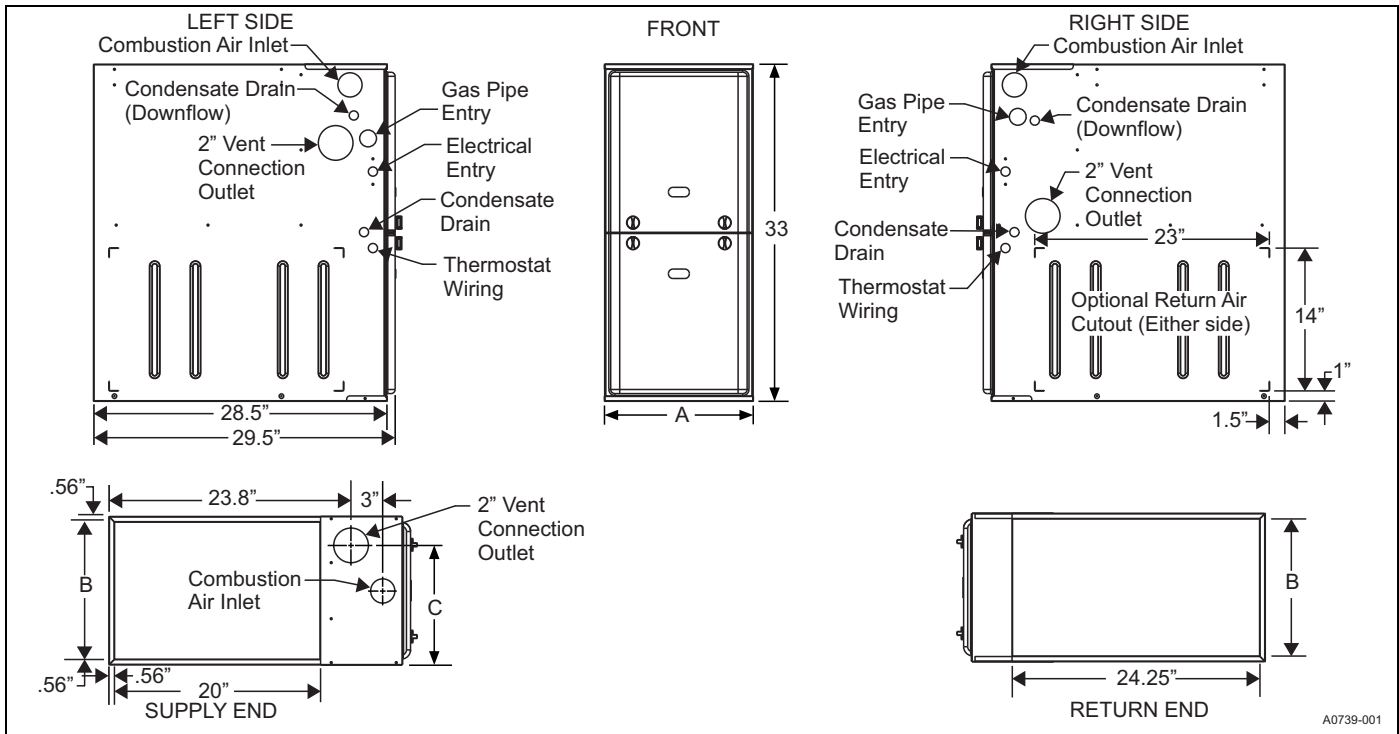

Figure 8: Dimensions
**Important:** Some accessories such as electronic air cleaners and pleated media may require a larger side opening. Follow the instructions supplied with that accessory for side opening requirements. Do not cut the opening larger than the dimensions for the "Optional Return Air Cutout" shown in Figure 8.
Gas piping may be connected from either side of the furnace using any of the gas pipe entry knockouts on both sides of the furnace. See Figures 8 and 12.